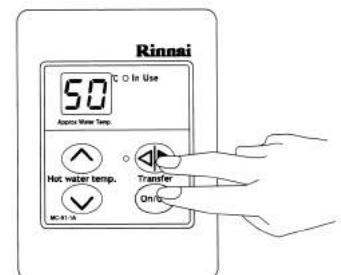

Fig. 1
STEP 1: On the Master controller only press and hold the **Transfer** and **ON/OFF** buttons simultaneously (see Fig. 1) until a "beep" is heard (approx. 5 seconds).